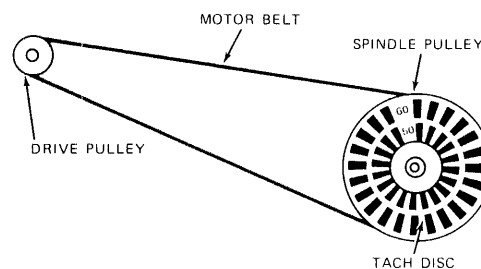

FIGURE 4. MOTOR SPEED ADJUSTMENT
- b. Turn the pot R-12 located on the motor control PCB until the dark lines on the spindle pulley appear motionless. For 60 HZ use the outside ring of lines for 50 HZ observe the inside ring. Reference figure 4.